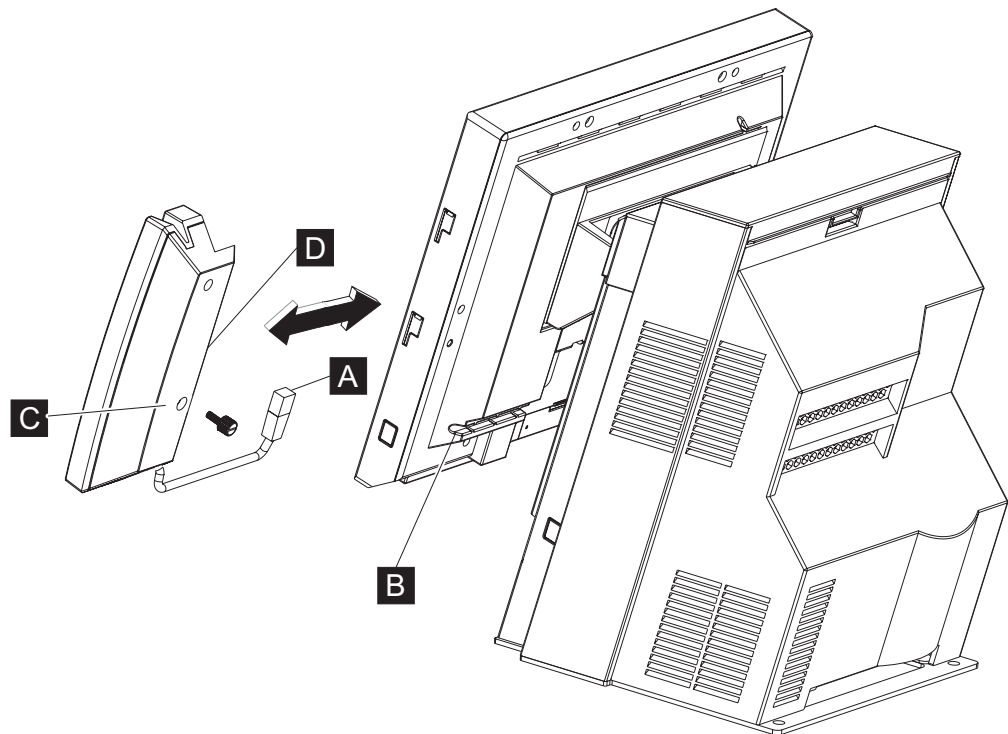

Figure 33. Removing the MSR
2. Unplug the MSR cable **A**, as shown in Figure 33 and remove the cable from the cable groove **B**.